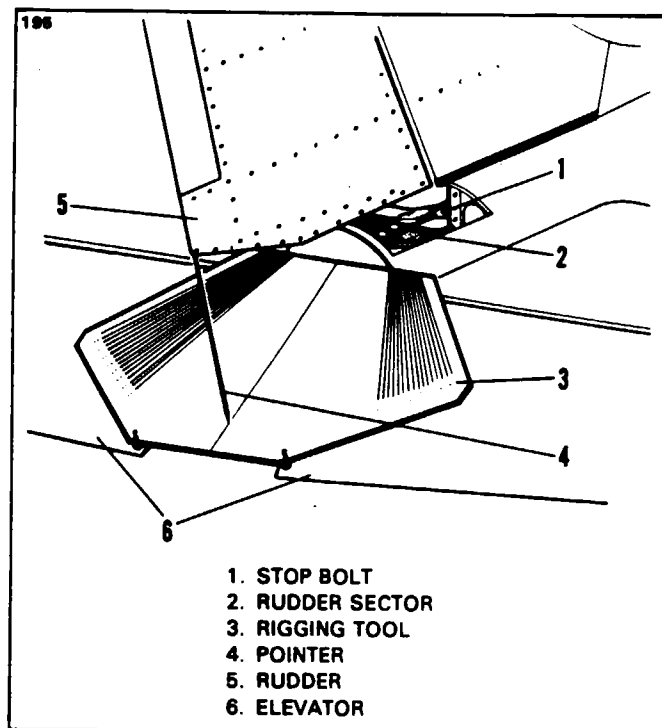

Figure 27-16. Installation of Rudder
3. Rudder travel adjustment with the use of the fabricated rudder rigging tool (refer to Figure 27-16) may be accomplished as follows: